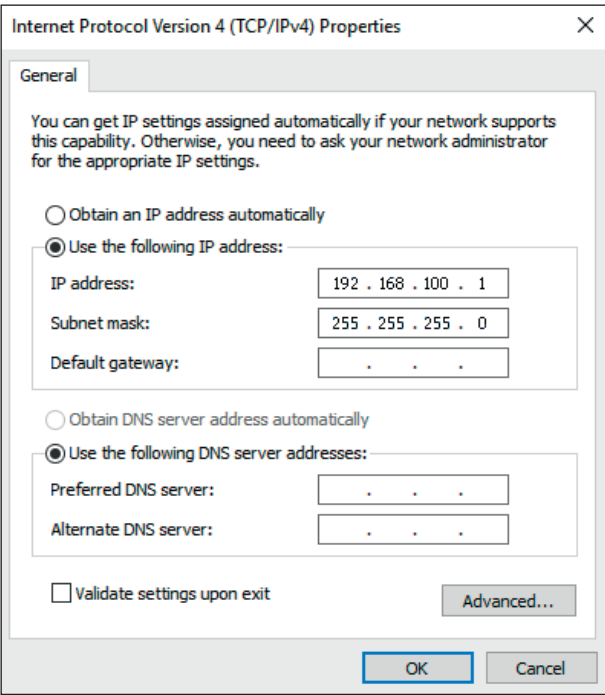

Fig. 6-8: Windows 10/11: **Internet Protocol Version 4 (TCP/IPv4) Properties** dialog
- ⇒ The **Internet Protocol, Version 4 (TCP/IPv4) Properties** dialog opens (Fig. 6-8).